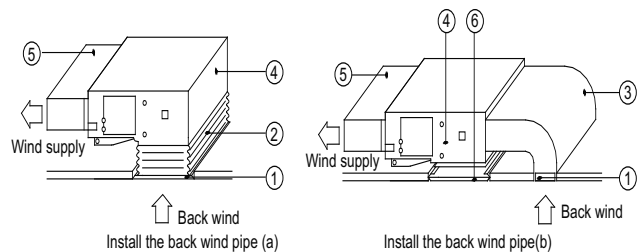

Fig. 58 – Return Air Duct
5. The installation method can be chosen with considering the conditions of the building and maintenance etc. (see Fig. 58).